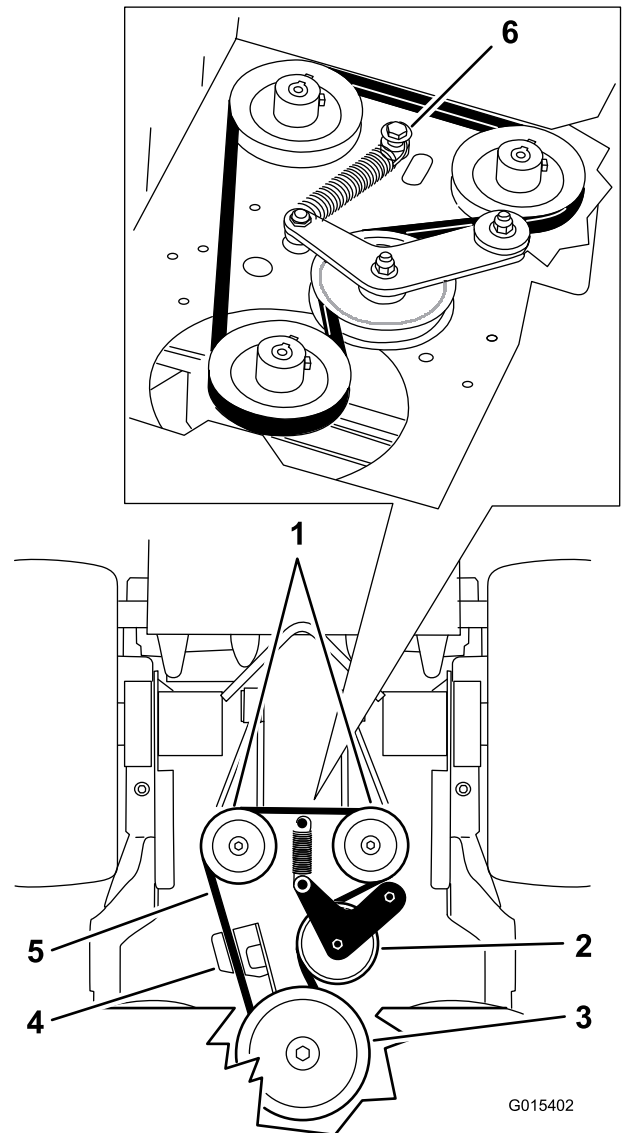

Figure 66
5. Remove the shoulder bolt, the nut, and the washer from the engine deck and connected spring (Figure 66).
6. Remove the pump-drive belt (Figure 66).
8. Install the spring onto the shoulder bolt and washer, and connect it to the engine deck with the nut (Figure 66).